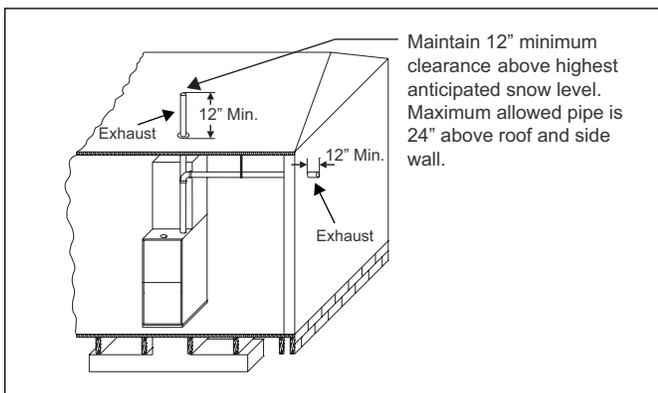
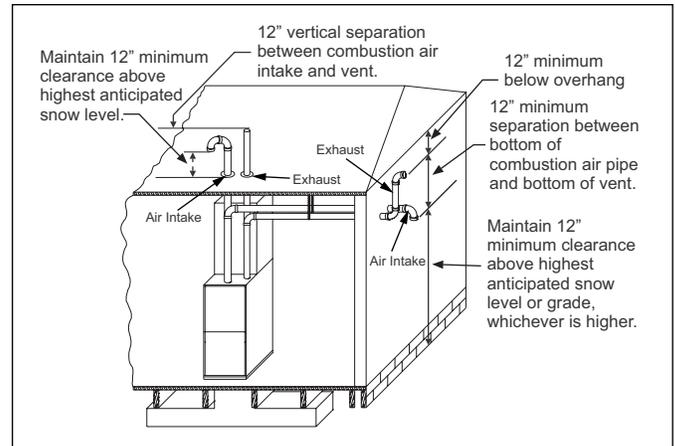

Figure 27 Termination configuration - 1 pipe
Figure 28 Termination configuration - 2 pipe
7. Direct vent systems must be installed so the vent and the combustion air pipes terminate in the same atmospheric zone. Refer to Figures 27 or 28.
Multiple units can be installed in a space or structure as either a single pipe configuration or a two-pipe configuration. The combustion air side of the single pipe configuration shown in Figure 28 is referred to in these instructions as ambient combustion air supply. Follow the instructions for ambient combustion air installations, paying particular attention to the section on air source from inside the building. The vent for a single pipe system must be installed as specified in the venting section of these instructions with the vent terminating as shown in Figure 27. Each furnace must have a separate vent pipe. Under NO circumstances can the two vent pipes be tied together.
If air from outside is brought in for combustion and ventilation, the confined space shall be provided with two permanent openings. The combustion air side of the two-pipe configuration shown in Figure 28 can be installed so the combustion air pipe terminates as described in outdoor combustion air or ventilated combustion air sections in these instructions.